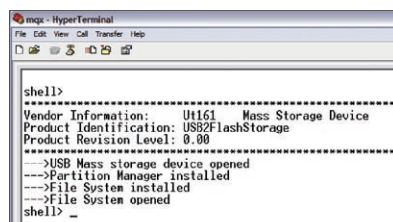

Figure 3: Inserting a USB mass storage device
6. On the hyperterminal console you should see text that indicates that the USB memory stick was found, the type of memory stick that was found, the USB mass storage device was opened, the partition manager was installed, and that the file system was installed and opened. It may take several seconds to fully install the memory stick. It will look like Figure 3.